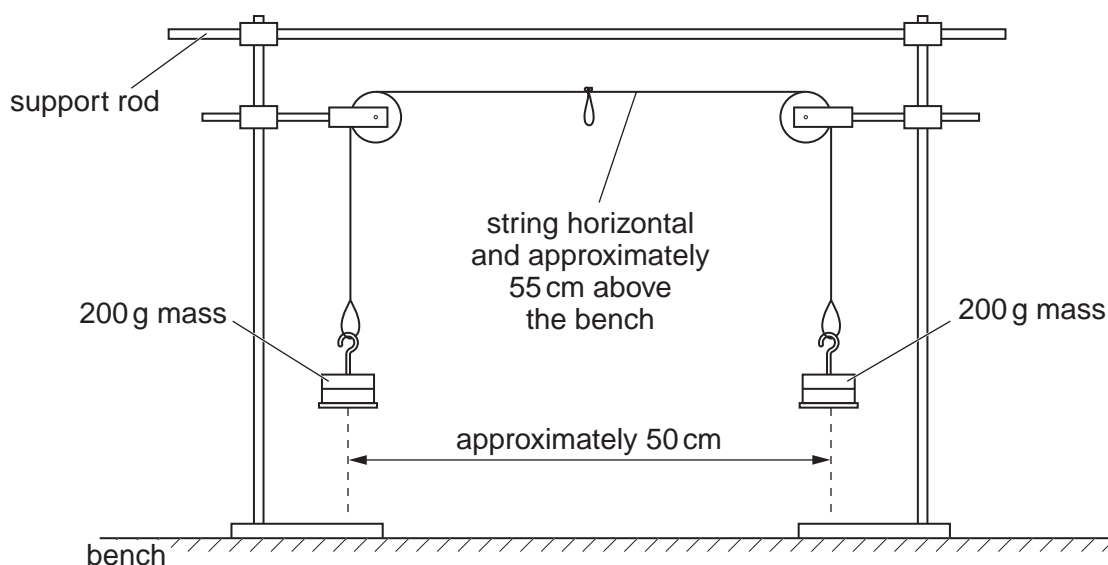

Fig. 1.1
- 2 The apparatus should be partially assembled as shown in Fig. 1.1. If it is to be used by another candidate, it should be restored to this original state.